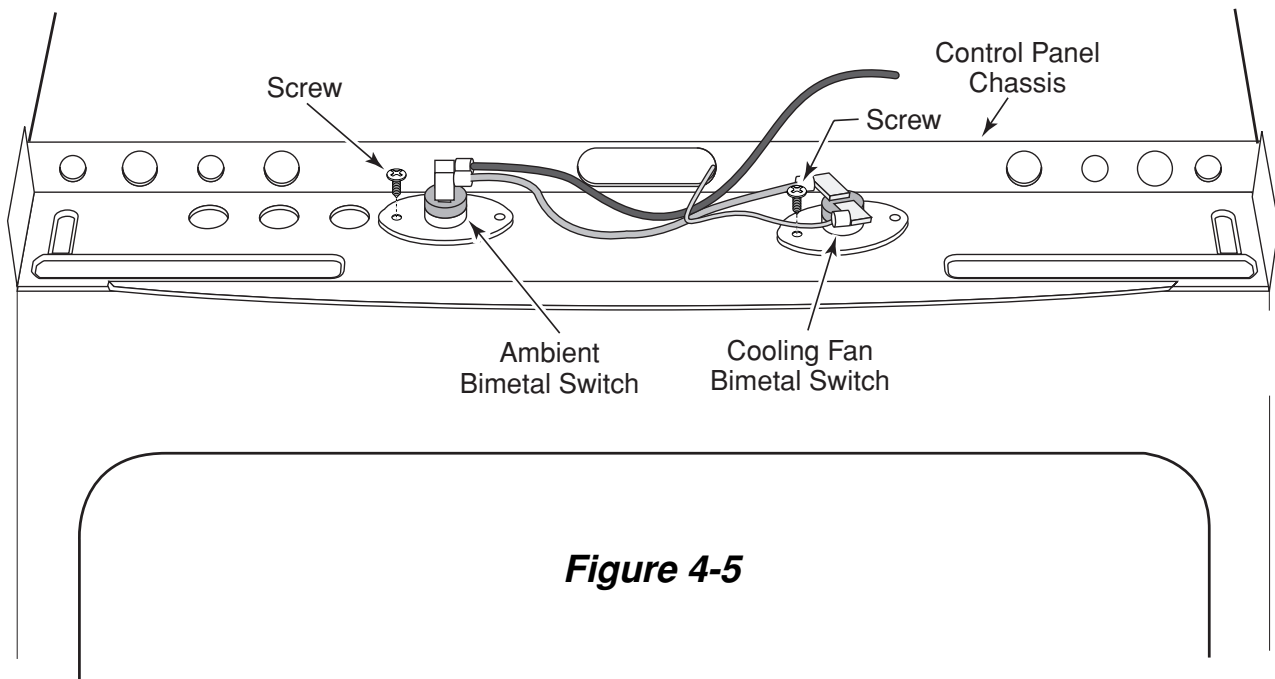

Figure 4-5
3. To remove a bimetal switch, remove the mounting screw and disconnect the wires from the terminals (see Figure 4-5).